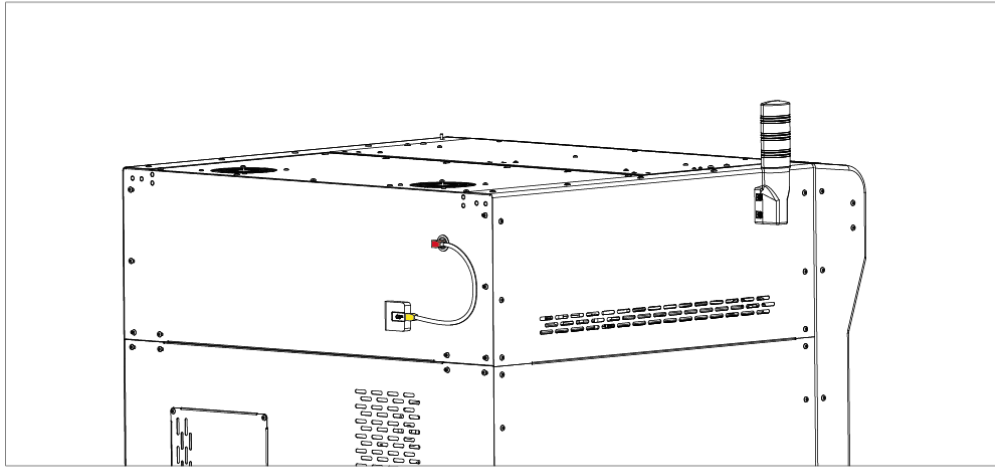
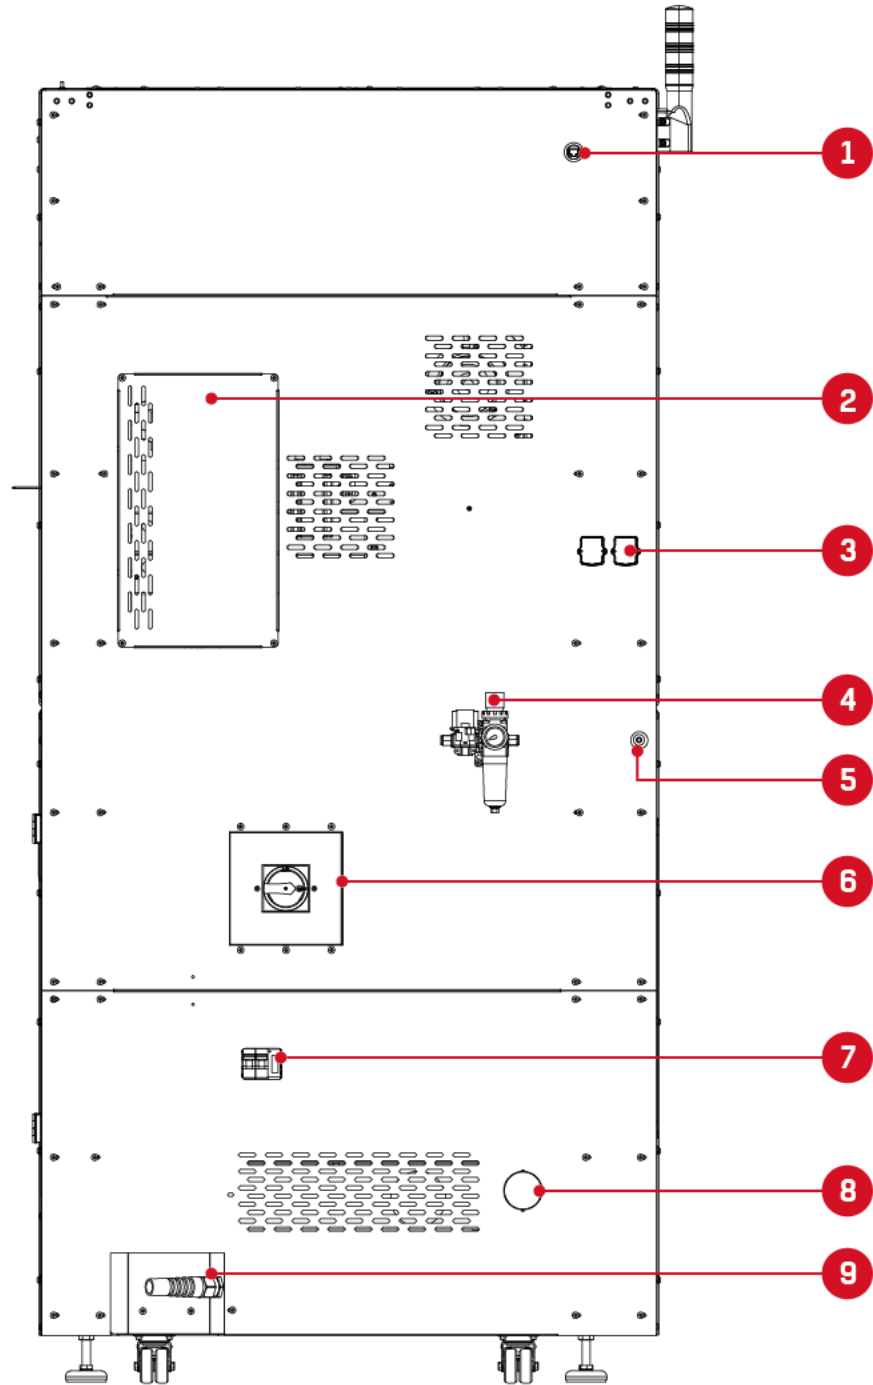

Fig. 11 WLAN module installed on the printer
Fig. 19 3DGence INDUSTRY F42x Series – rear view:
1. Plug one end of the WLAN cable provided into the WLAN module (fig. 11, yellow).
2. Plug the other end of the WLAN (fig. 11, red) cable provided into the LAN/WLAN adapter socket of the printer (fig. 19, point 3).
3. Put the WLAN module on the printer. It will be fixed with a magnet (fig. 11).
The slats and brushes are attached to the cleaning station (Fig. 19). Before you start up the printer for the first time, make sure that each of the cleaning station slats is well adjusted to the corresponding nozzles in the printing module. Incorrectly adjusted components may impair the quality of prints, material residues left over in the working chamber or excessive wear of the station cleaning unit.
The printer main switch is located on the rear of the device and supplies power to all systems inside the device (Fig. 19). The switch is equipped with 4 current circuits. When the printer is equipped with an uninterruptible power supply (UPS) module, power is cut off both upstream and downstream the module. This prevents the device from being powered by the UPS battery when it is necessary to switch it off completely. It is recommended to use the main switch to turn off the device after safe shutdown procedure from the operator panel (power button on the front panel of the device). The current processes will be completed, and the device will finish operation after the print module and the work chamber have cooled down, otherwise permanent damage to key components may occur.
The power cord inlet is located on the left bottom of the housing rear panel (Fig. 19). It is equipped with a cable gland to prevent the power cable from breaking. Use a power cord that meet the specifications and check the condition of the power cord. Do not use the device with a damaged power cord or cable gland.